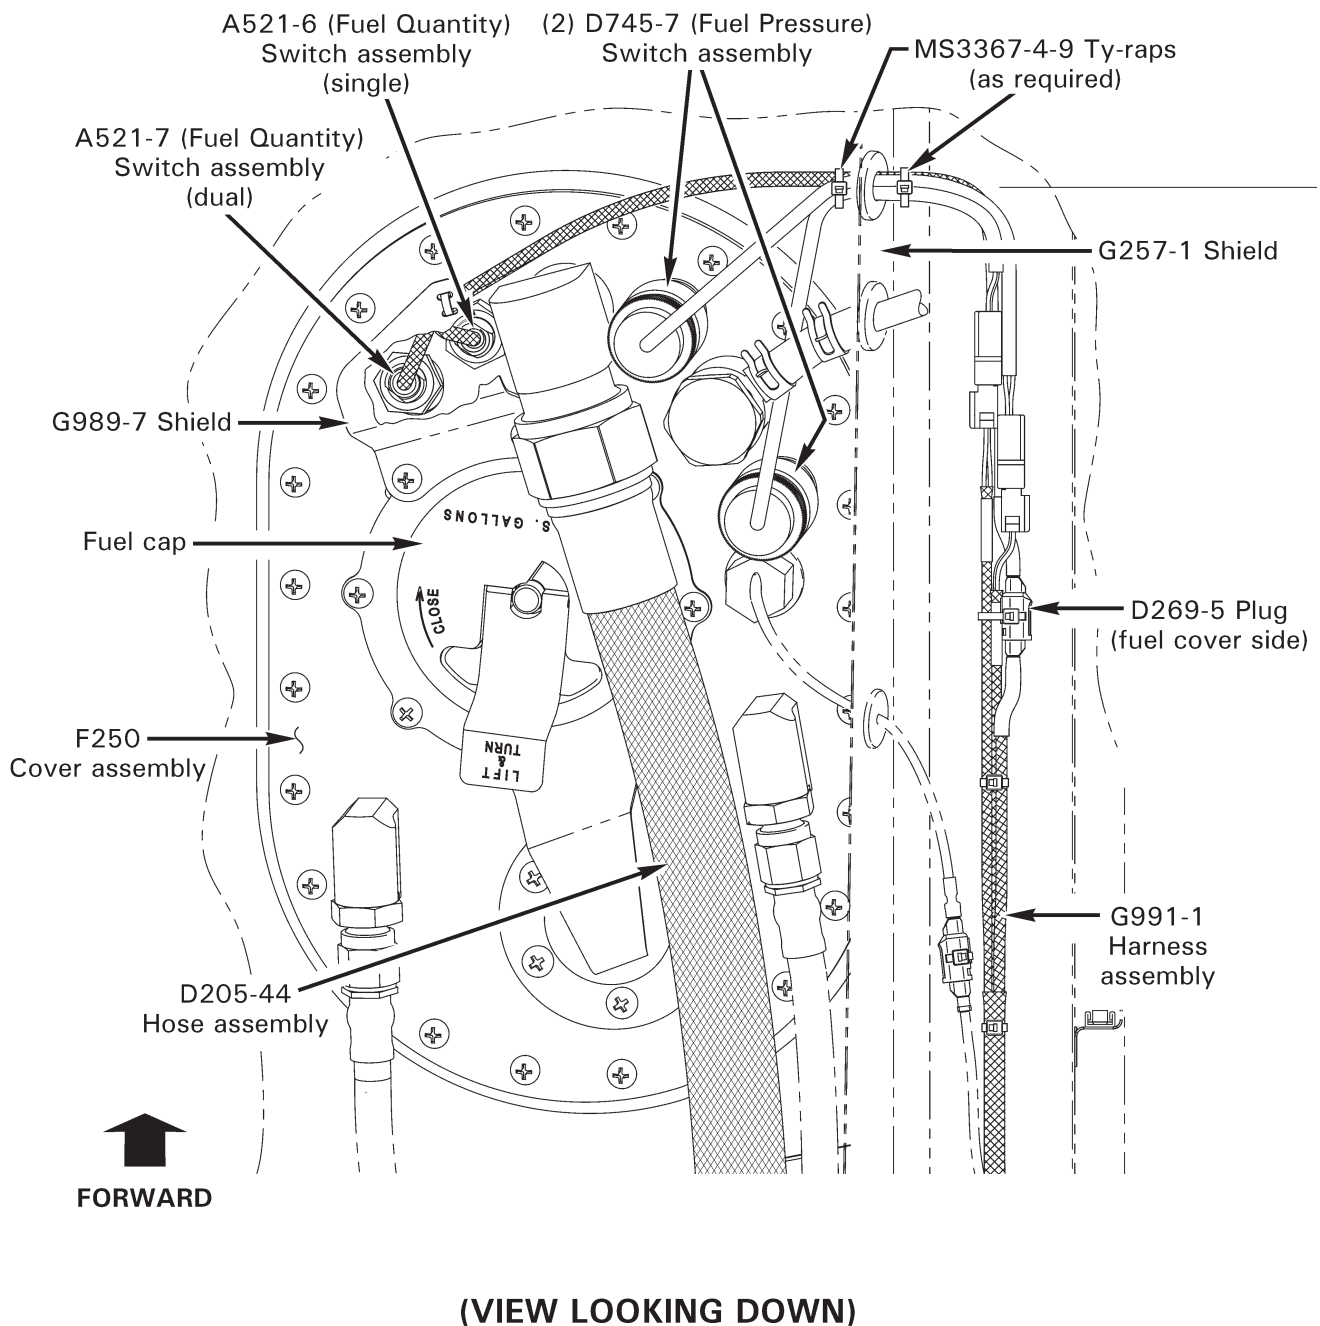

FIGURE 28-8 MAIN FUEL PORT (SHOWN WITH OPTIONAL AUX FUEL TANK)
4. Refer to Figure 28-8. Open (main) fueling port door. Cut and discard ty-raps as required and disconnect A521 & D745-7 switch assembly wire harnesses from G991-1 harness assembly at connectors.
2. Refer to Figure 28-8. Open (main) fueling port door and remove fuel cap. With gloved hand, route switch assembly and wiring through (fuel cap) opening inside of bladder. Route wires thru switch assembly opening and install nut securing switch assembly to F250 cover assembly. Special torque nut per § 20-33 and torque stripe per Figure 5-1.
3. Refer to Figure 28-8. Open (main) fueling port door. Cut and discard ty-raps as required and disconnect D745-7 & A521 switch assembly wire harnesses from airframe harness at connectors.
1. Refer to Figure 28-8. Apply B270-6 sealant or A701-11 tape to D745-7 switch assembly threads and install switch in F250 cover assembly. Special torque switch per § 20-33 and torque stripe per Figure 5-1.